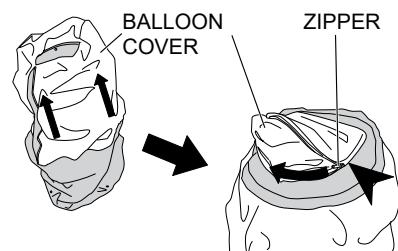

Figure 18. Zipping Protective Cover
3. Fold the protective cover into itself and zip (Figure 18).